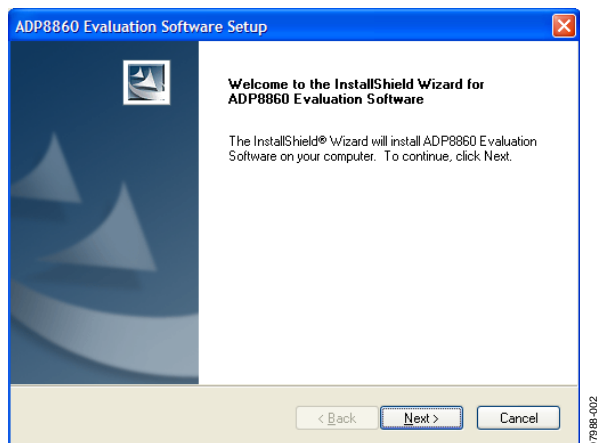

Figure 2. ADP8860 Evaluation Software Setup
1. Launch the **Setup.exe** file. When the dialog box shown in Figure 2 appears, click **Next>** to continue.